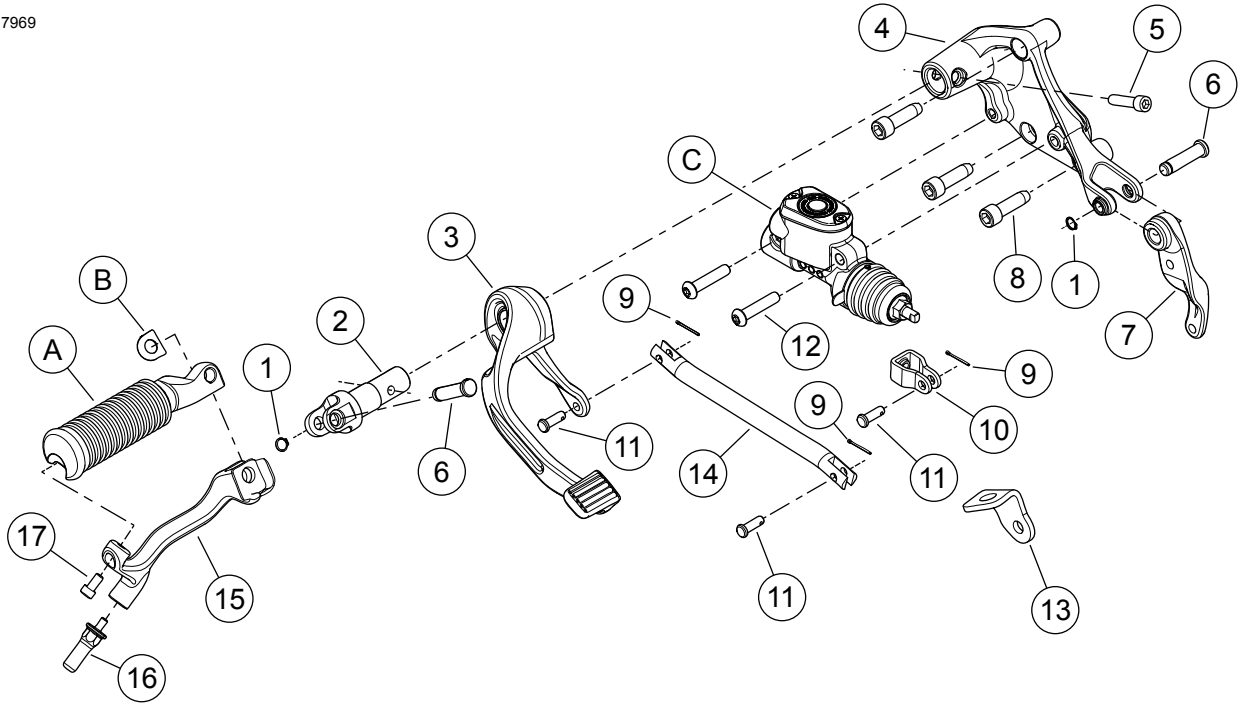
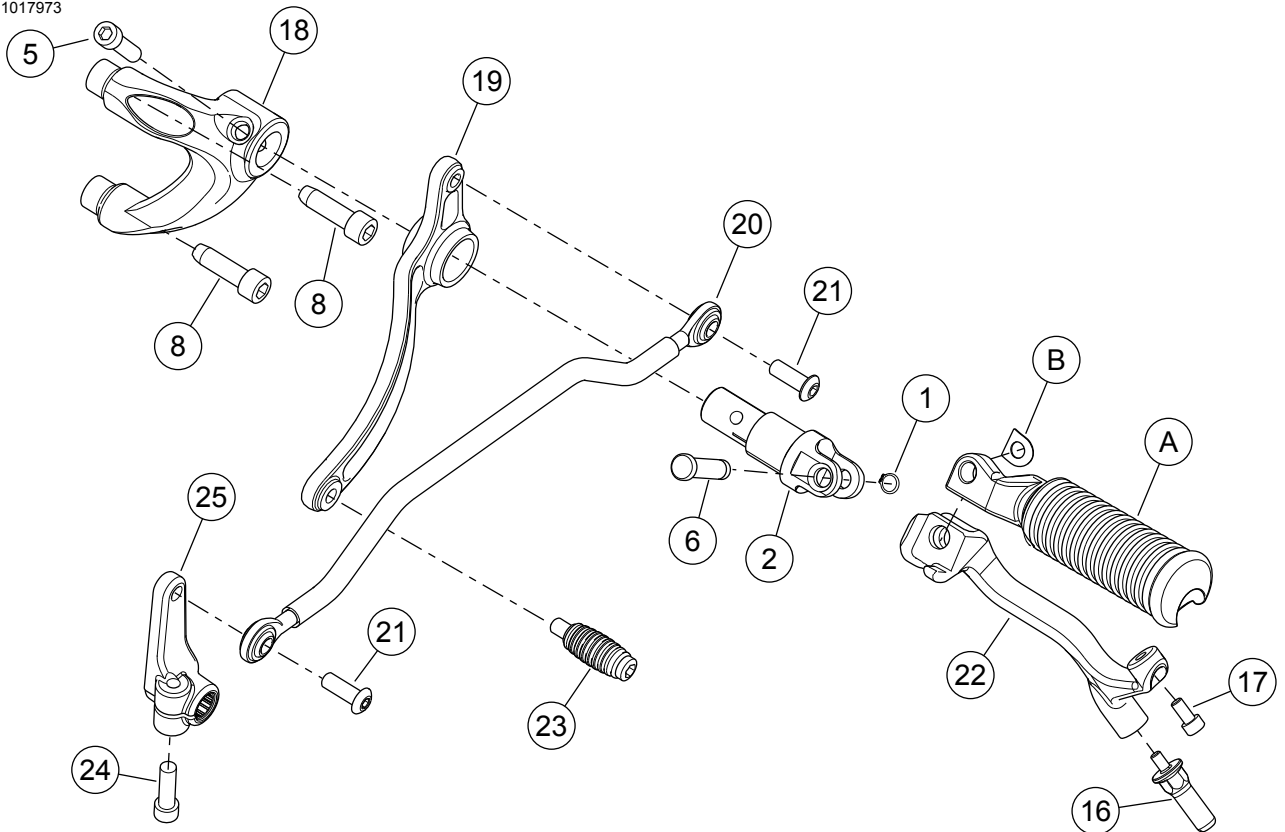

Figure 1. Right Rear Brake Control
Figure 2. Left Rear Shifter Control
See Figure 1, Figure 2 and Table 1.
1. See Figure 1 and Table 1. Remove bolts which hold rear master cylinder in place. Discard bolts.
2. Install master cylinder yoke (10) to rear master cylinder (C) with previously removed hardware.
1. See Figure 2 and Table 1. Position main support bracket (18) onto vehicle and install mounting screws (8) to secure assembly.